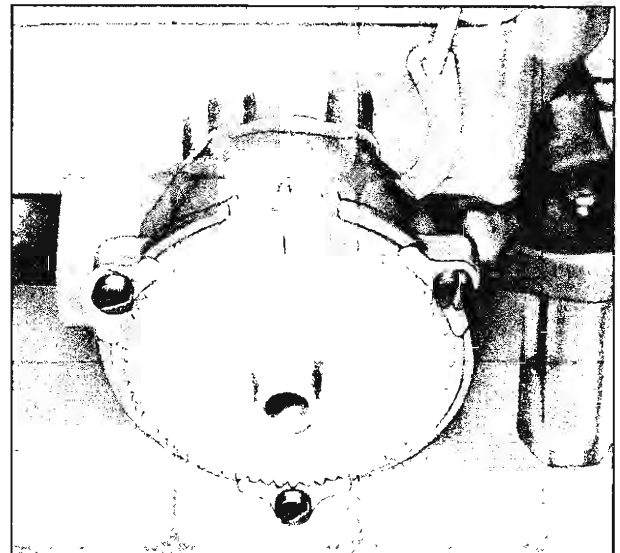

Fig. 17—Choke Adjustment (Rochester 4GC)
**V-8 Engines (327 and 409 cu. in. Fig. 17)**